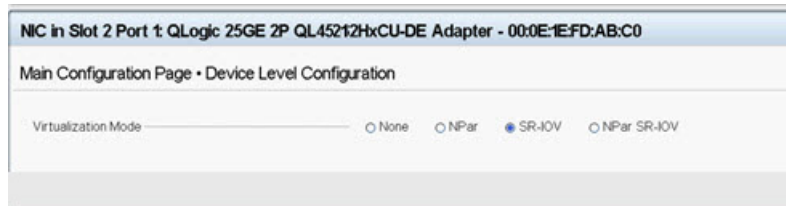

Figure 8-9. System Setup for SR-IOV: Integrated Devices
8. On the Device Level Configuration page (Figure 8-9):